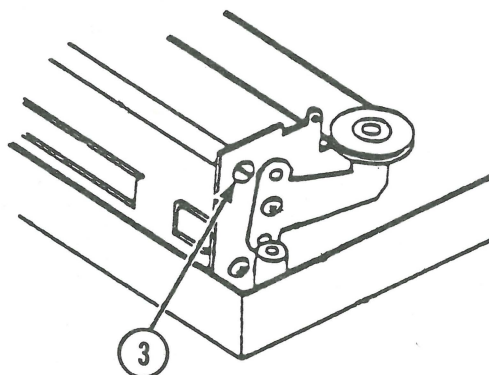

FIGURE 22
11. Remove the screw (Figure 22, #3) on the right end of the shaft.